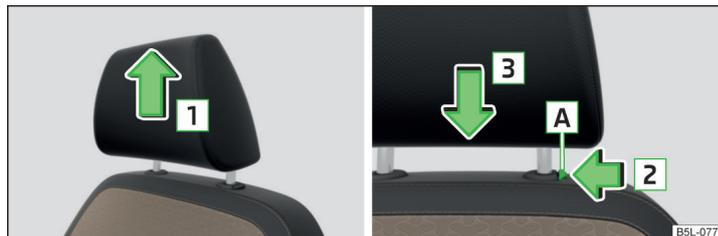

Fig. 65 Head restraint: Move up / move down
- Grasp the restraint and move **upwards** in the direction of 1 » Fig. 65.
- Press the locking button A in the direction of the arrow 2 » Fig. 65 and pull the head restraint out.